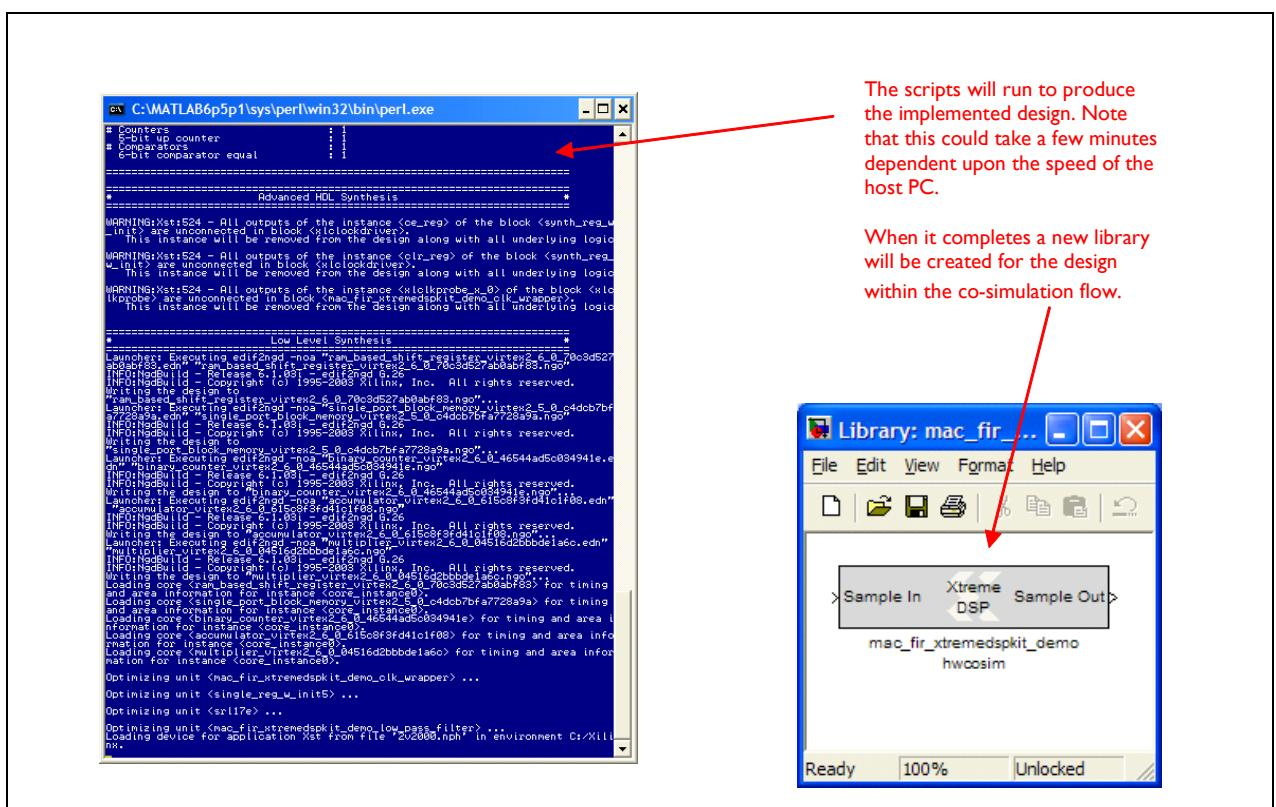

Figure 130: Command Window and Generated Runtime Library
3. Once the parameters have been set, click on the 'Generate' button to start the System Generator flow. The flow will create the netlist of the design but will also run the design through the synthesis and implementation tools to create a bitfile automatically. The process execution is carried out in a command window (shown in Figure 130 on page 206). Once complete, a new library is created which contains a single block for the cosimulation of the design. This is the runtime block.